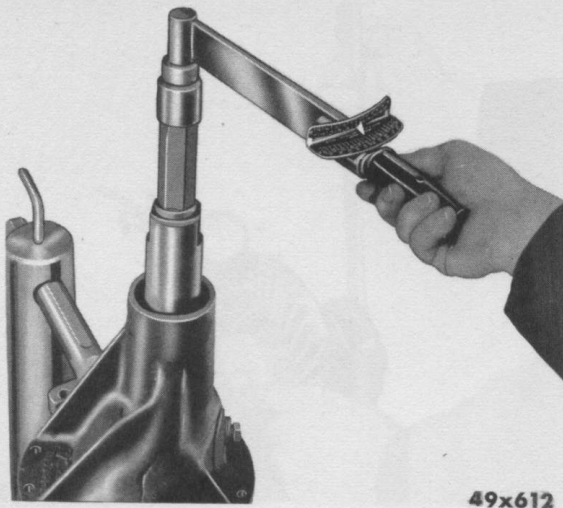

Fig. 15—Checking Torque Required to Turn Main Body
- (e) Use an inch-pound wrench to read the torque required to turn *main body*, as shown in Figure 15. Desired torque should be from 15 to 25 inch-pounds. (It may be necessary to add or remove shims to obtain desired torque. In this case, loosen up the assembly and add or remove shims as required.)
(2) Pinion Setting